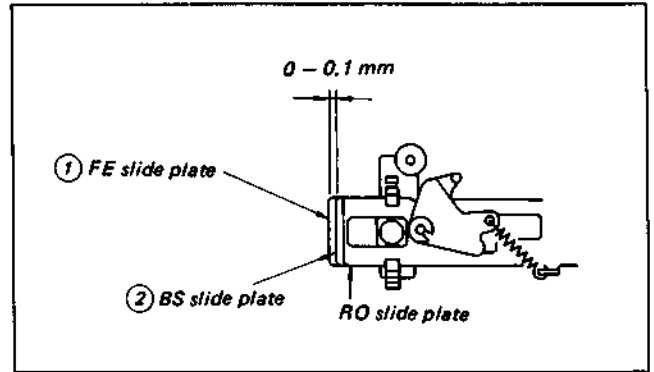

Fig. 3-14c. FE solenoid adjustment
- As shown in Fig. 3-14c, adjust the solenoid so that there is 0 – 0.1 mm clearance between the FE slide plate ① and the end of the BS slide plate ② when viewed from directly above.